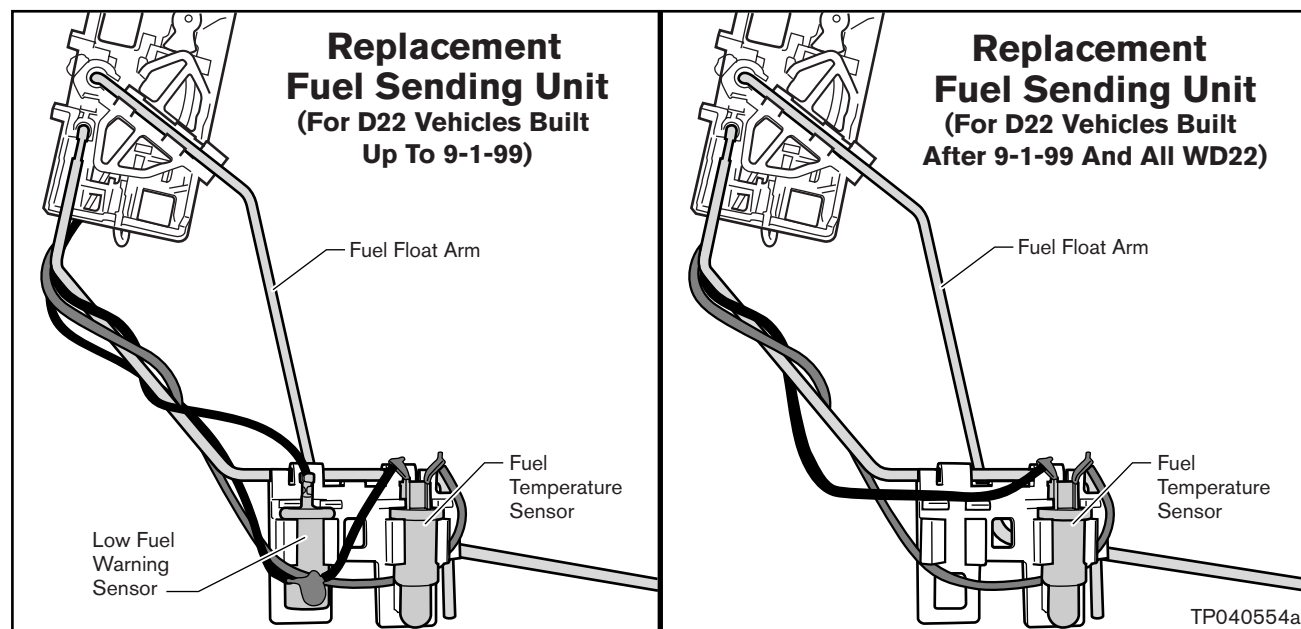

Figure 43
**NOTE:** The Fuel Sending Unit that you remove from the vehicle may look different from the new replacement service part (see Figure 43).
**Phone;** 1 (800) 811-0502
**Fax;** 1 (770) 218-0148